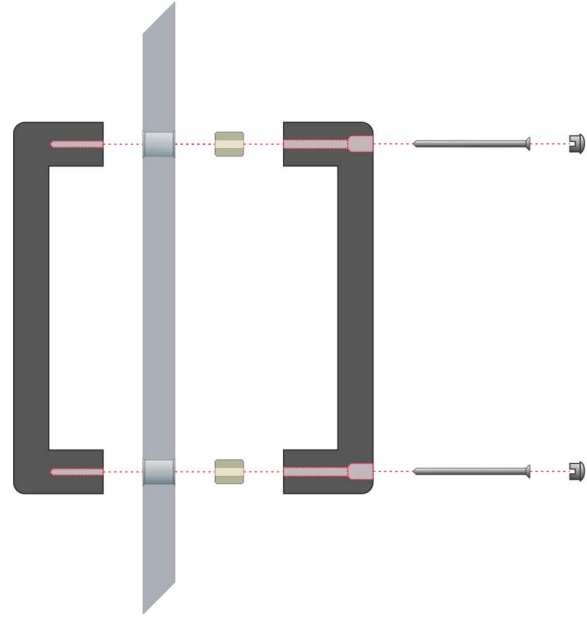

Figure 19. Installing Door Handle
62. Arrange the door handles and hardware as shown in Figure 19. Screws and cap are installed from inside the door.
65. Using the two (2) M4 x 100mm Phillips head screws included in the kit, attach the door handles to the glass door.